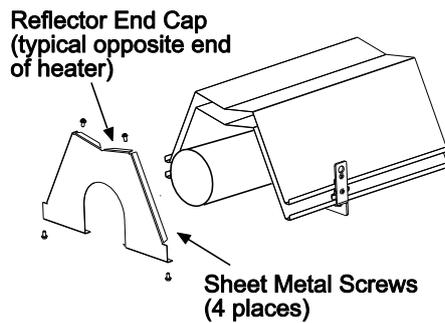

Fig. 22k
14. Tighten all screws securing clamps and brackets installed earlier. Place **end reflector caps** and secure using screws (supplied in fastening kits) as shown in Fig 22k below: